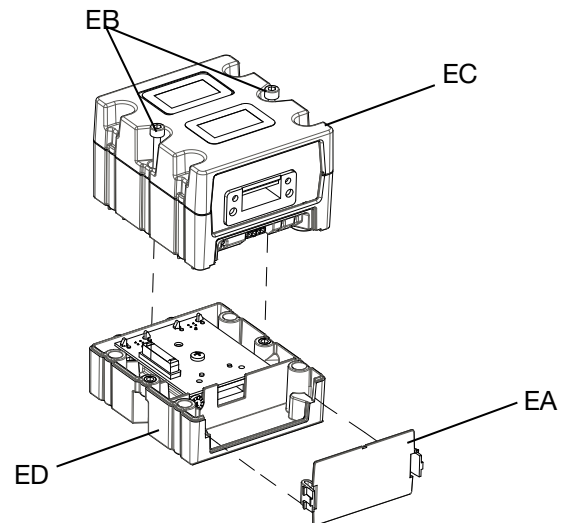

Fig. 57: Disassembling the CGM
4. Remove the access cover from the CGM (EA). Loosen the two screws (EB) and remove the CGM (EC) from the base (ED) as shown in FIG. 57.